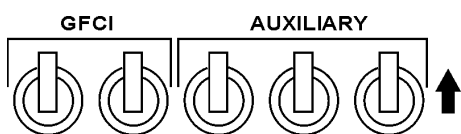

Figure 20. GFCI/AUX. Circuit Breakers (ON)
- Place **GFCI** and **AUX.** circuit breakers (Figure 20) in the **ON** position.